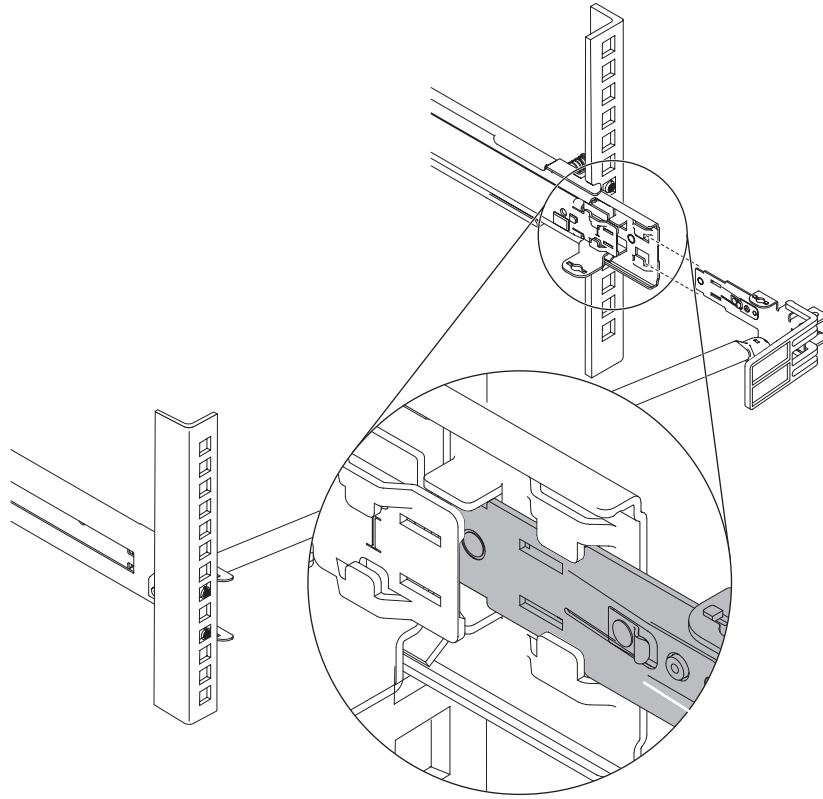

Figure 35. Connecting the stop bracket to the slide rail
5. Connect the stop bracket to the slide rail, as shown in Figure 35 on page 45.